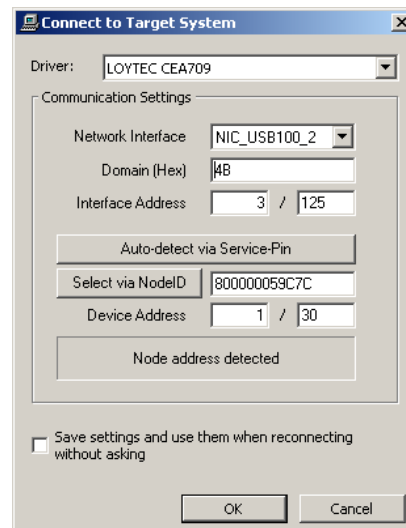

Figure 230: Connect via CEA-709
- **CEA-709:** Select the network interface to use and fill out all other fields, see Figure 230. Alternatively, select the network interface and press Auto-detect via Service-Pin. Then press the service pin on the LINX-110 device. Note that this connection method requires an installed LOYTEC network interface.